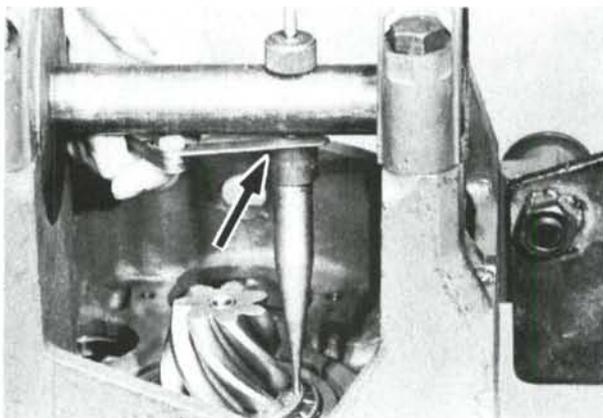

Fig. 209—Use a feeler gage to measure gap between spacer and shaft.
Install special pinion setting tool (CAS-1234) in the differential support bracket and secure with carrier bearing end caps (Fig. 208). Assemble correct thickness spacer (7) on tool for model being serviced as recommended by tool manufacturer. Adjust tool until tip of probe lightly contacts surface of bearing inner race. Use a feeler gage to measure gap between the spacer and shaft as shown in Fig. 209.